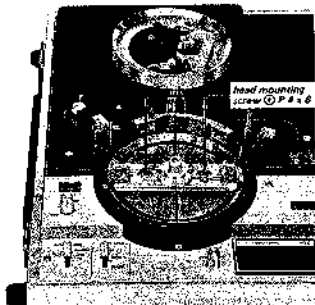

Fig. 4-2. Removal of video head assembly
6. Hold the Video Head Assembly to keep the platform from rotating and loosen the two + P 4 x 8 screws that hold the head assembly to the platform. See Fig. 4-2. Do not put too much downward pressure on these screws; loosen the locking compound with Methyl Ethyl Ketone. Remove the screws and the washers.